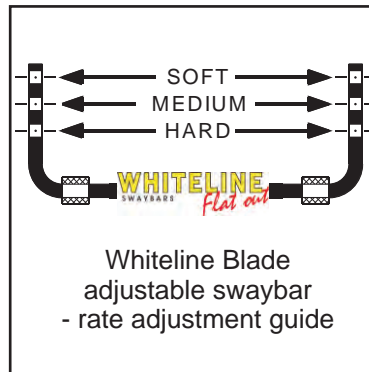
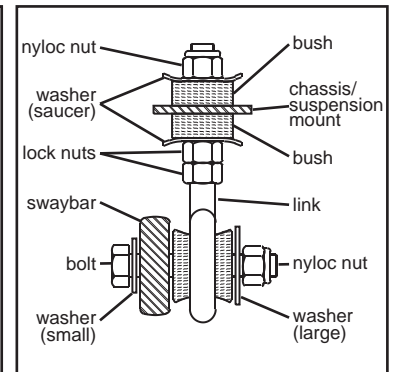

Figure 1.
Figure 2.
3. Assemble swaybar end links as illustrated in figure 2 and fit to 'L' shaped bracket as in photos 1 & 2.
6. Connect the link to the swaybar using the remaining 3/8" (50mm long) bolts, washers and nuts, refer to figure 2. For adjustable swaybar, connect to the desired adjustment position, refer to figure 1.